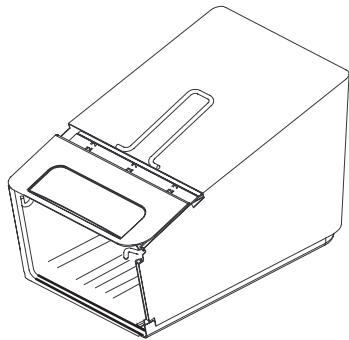

**Figure 5**
1. Attach the two side channels of the grass bag to the grass bag frame as shown in Figure 5.